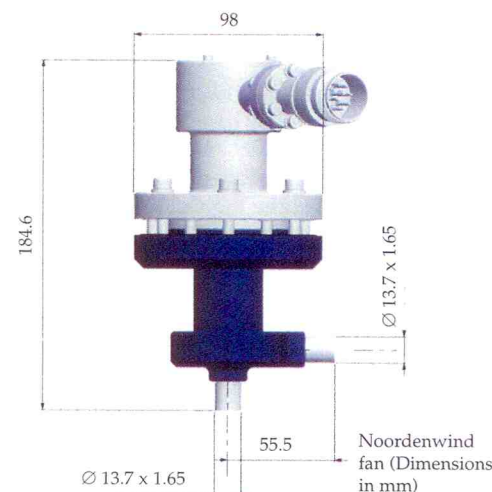

Figure 4: Dimensional drawing Noordenwind CryoFan.
6) The CryoFans will be mounted partially inside and outside the cryostat/vacuum space. The pump housing (the dark blue part in Figure 4) with the connections to the gas lines (like VCR connections) will be inside the vacuum space. The motor with the shaft and impeller (gray part of figure 4) will be inserted from the top, from the outside of the vacuum space. This will enable the fan to be retracted from the system without breaking the vacuum, much like a cryogenic valve. It does, however, require a specific hole pattern. This can be made either in the wall off the cryostat or, for instance in a CF flange which then is mounted on the cryostat.